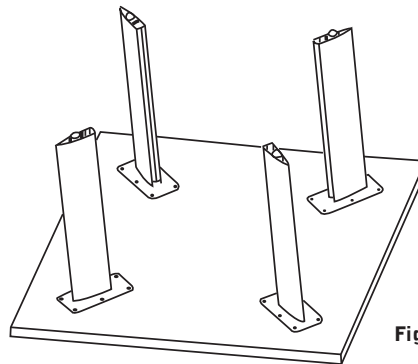

Figure 1
2. Place table upside down onto a soft surface. As shown in Figure 1, invert and position the bases onto the underside of the table and align the metal base plates with the inserts in the underside of the top. THE BLACK PLASTIC EXTRUSION FACES TOWARDS THE CENTER OF THE TABLE.